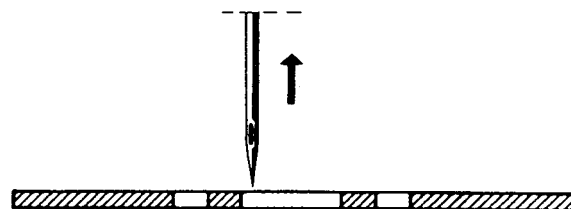
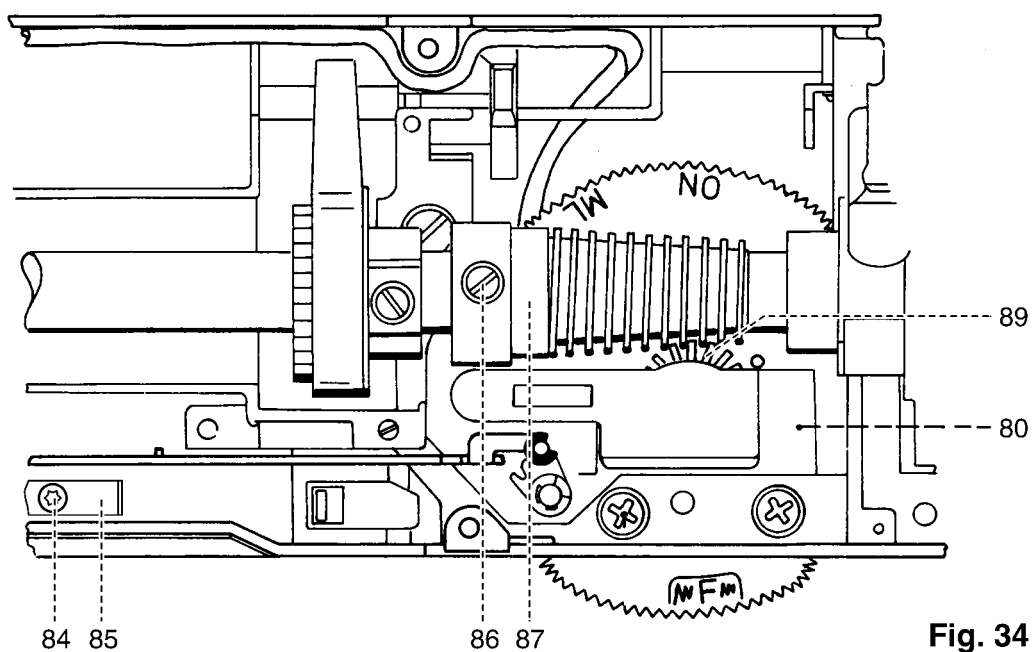
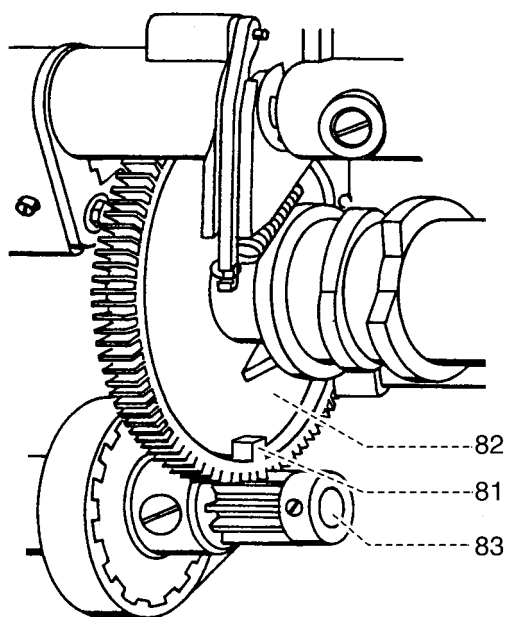

Fig. 35
Fig. 34
Fig. 36
When hole mark 80 is indicated on the automatic unit bracket (fig. 34) and when during a left-hand zigzag stitch the point of the rising needle is level with the surface of the needle plate (fig. 35), dot mark 81 on the large gear wheel 82 must be exactly in the center of the small gear wheel 83 (fig. 36).
- Rotate the handwheel until the point of the rising needle is level with the surface of the needle plate (fig. 35). The handwheel must not be rotated any further!
- Turn worm 87 to the front until it is flush with the left-hand side and dot mark 80 is indicated in the position shown in fig. 34.
- Turn the worm backwards until a little binding can be felt thus making sure that worm 87 and worm gear 89 have no play (fig. 34).